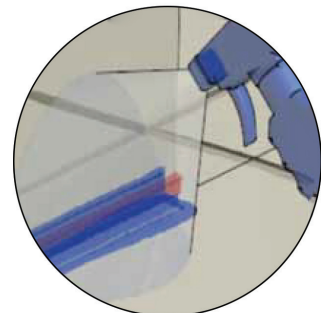

FIG 13.
- Apply more silicone if necessary. Spray channel/glass with soapy water then use spatula provided to clean off all excess silicone (FIG 13 & 14). Repeat this process 2 or 3 times then wipe off water with paper towels.